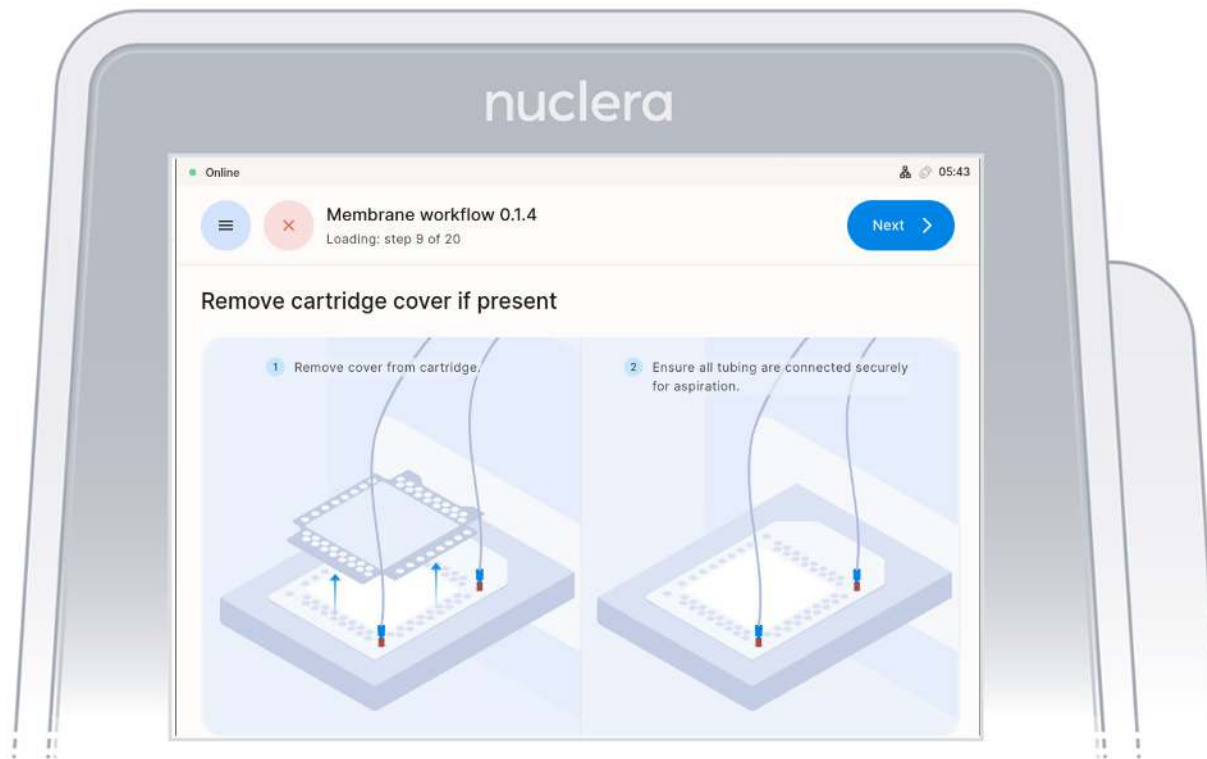

Figure 17: Remove cartridge cover
5. Remove the cartridge cover if used during the loading (Figure 17)